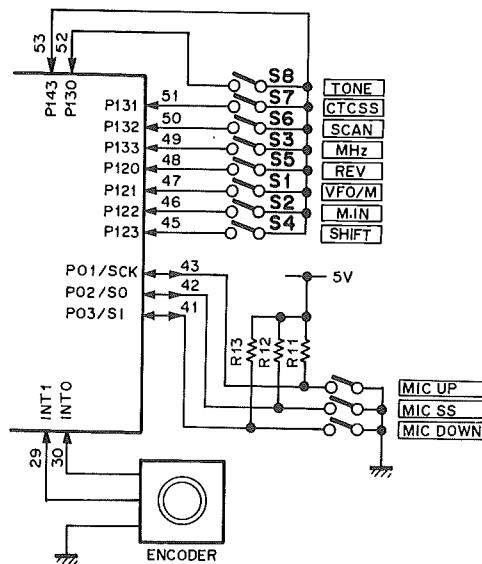

Fig. 7 Key and rotary encoder input circuits
**Fig. 7** shows the input circuit for the keys and rotary encoder. Data from the front panel keys, microphone keys, and rotary encoder are applied directly to the microprocessor.